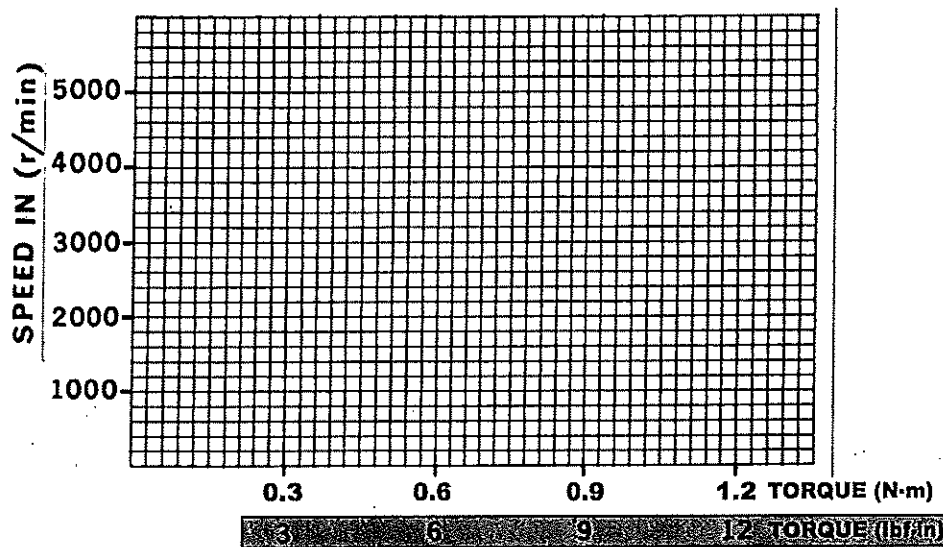

Figure 5-2.
- 5. a. Plot the recorded motor speed values from Table 5-1 on the graph of Figure 5-2.